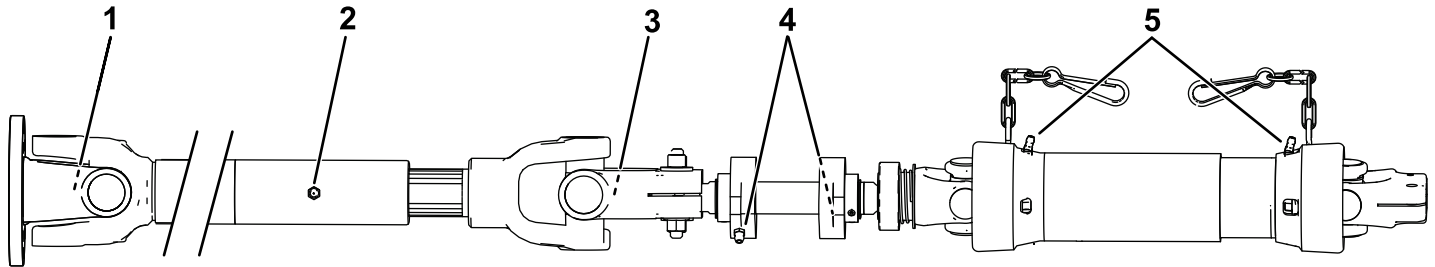

Figure 23
2. There are 7 grease points; refer to the mount kit service decal or Figure 23.